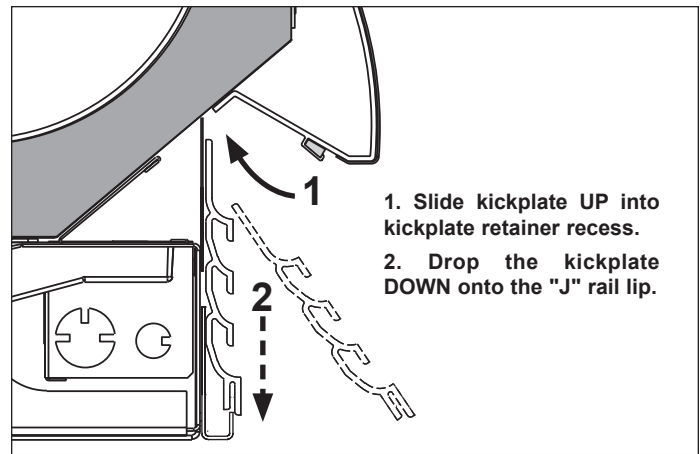

Fig. 9 Kickplate installation
12. Insert top of kickplate into the kickplate retainer. Slide the kickplate up into the retainer, then down onto the "J" rail (Fig. 9). Be certain that the bottom of the kickplate is fitted over extruding "lip" of the "J" rail.